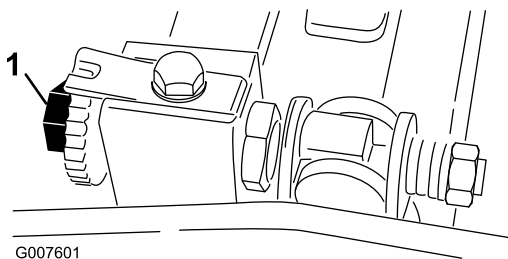

Figure 39
2. Ensure that the reel contact is removed by turning the bedbar adjusting screws counterclockwise (Figure 39).
turn the bedbar adjusting screw clockwise (on the same end of reel, one click at a time, until the paper is pinched lightly, when inserted from the front, parallel to the bedknife, which results in a slight drag when paper is pulled (Figure 39)